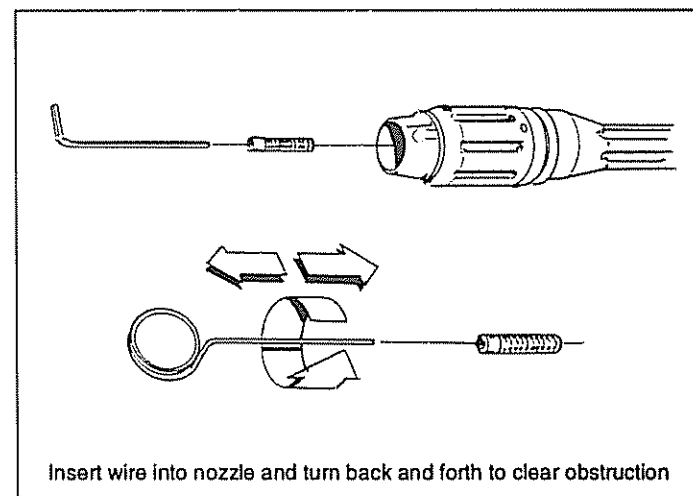

FIG. 29
- Use the wire included in the kit (Fig. 29) or a small paper clip to free the foreign materials clogging or restricting the nozzle.